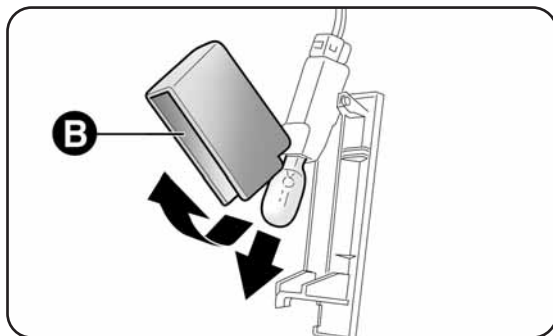

fig. 34
- open cover B-fig. 34 and replace the bulb;